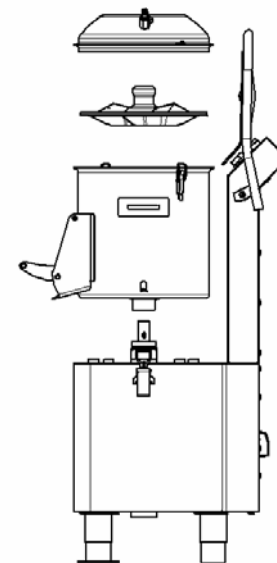

FIG. 12 - Afmonteret maskine
- FIG. 12 - Afmonteret maskine side 15